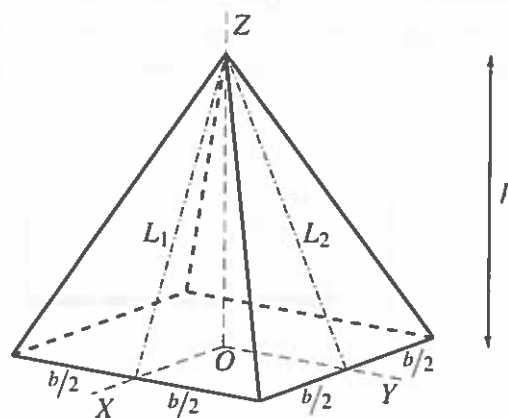

Figure 2.1 Right square pyramid.
2. A right square pyramid of height h , square base side length b , mass m and density ρ , is shown in Figure 2.1. The origin O of the Cartesian coordinate system with axes X , Y , and Z is at the geometric centre of the square base of the pyramid. The Z axis is the axis of symmetry of the pyramid. The volume of the pyramid is $\frac{1}{3}b^2h$.
- a) Write in Cartesian coordinates the equations of the lines L_1 and L_2 shown in Figure 2.1. [3]